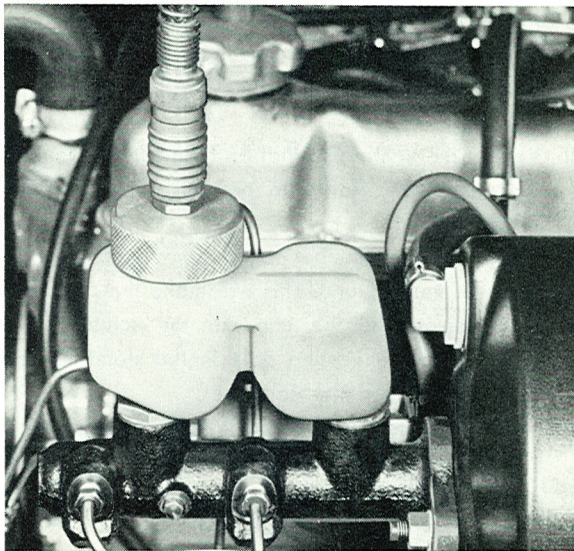

Fig. 5-60. Connecting the venting unit
3. Fit on the container a cap specially used when venting, see Fig. 5-60. This cap can be obtained from AB Volvo Service Department. Connect the venting unit according to the instructions of the manufacturer. The working pressure is 2 kg/cm² (28.4 lb.sq.in.). The Type of venting unit which may be used is shown in Fig. 5-5.